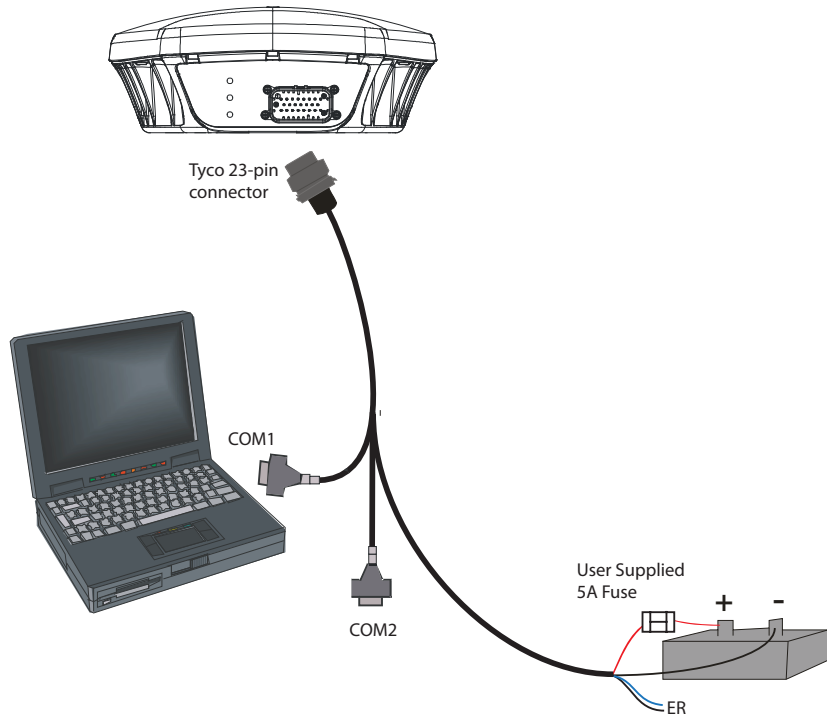

Figure 3: Simplified SMART-MR10 Setup
- SMART-MR10 cable (see *Appendix D Replacement Parts* on page 98 for part numbers). Refer to *Figure 3, Simplified SMART-MR10 Setup* on Page 23 for COM and power connections